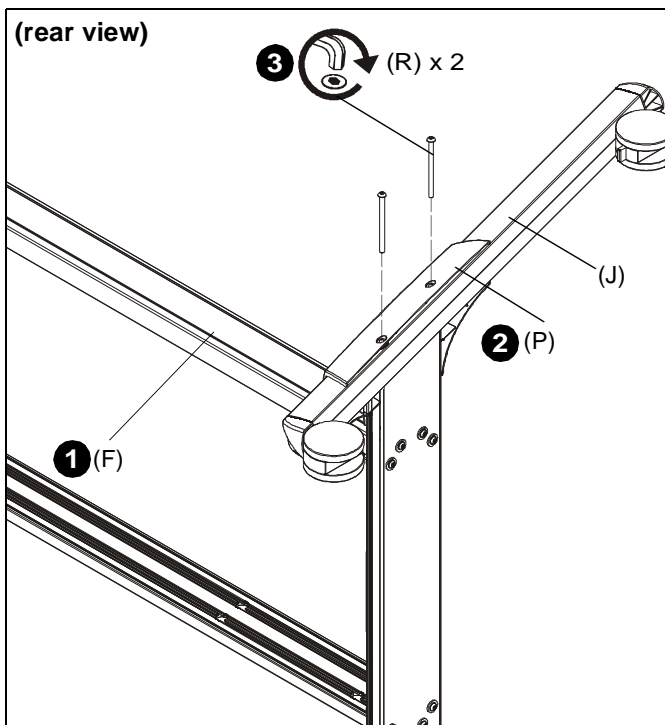

Figure 1
1. Carefully set column assembly (F) on its left side. (See Figure 1)
2. Place right transition cover (P) on right cart leg (J), lining up the holes on the cover with the holes on the leg and column assembly base. (See Figure 1)
3. Use two 5/16-18 x 3 3/4" button head cap screws (R) to secure leg (J) and cover (P) to column assembly (F). (See Figure 1)